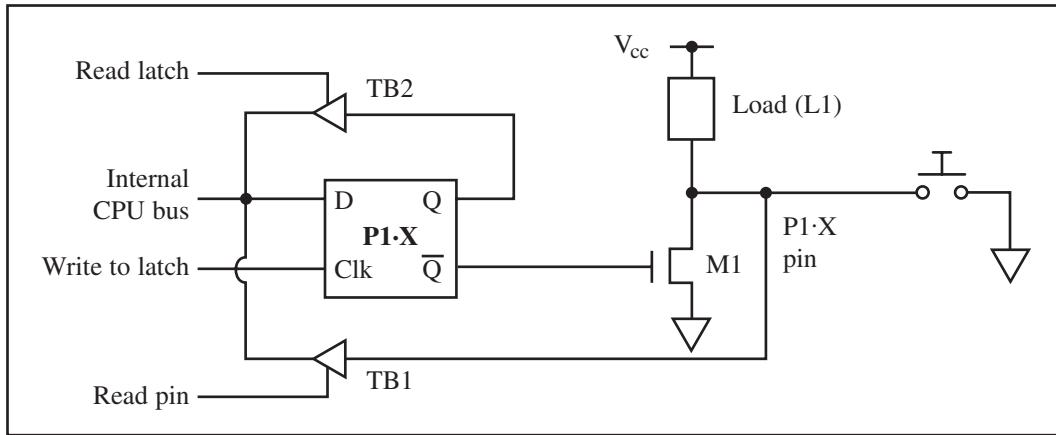

Figure 15. Input Switch with No V_{cc}
2. The second method is to use a switch with a ground only, and no V_{cc} , as shown in Figure 15. In this method, we read a low when the switch is pressed and a high when it is released.